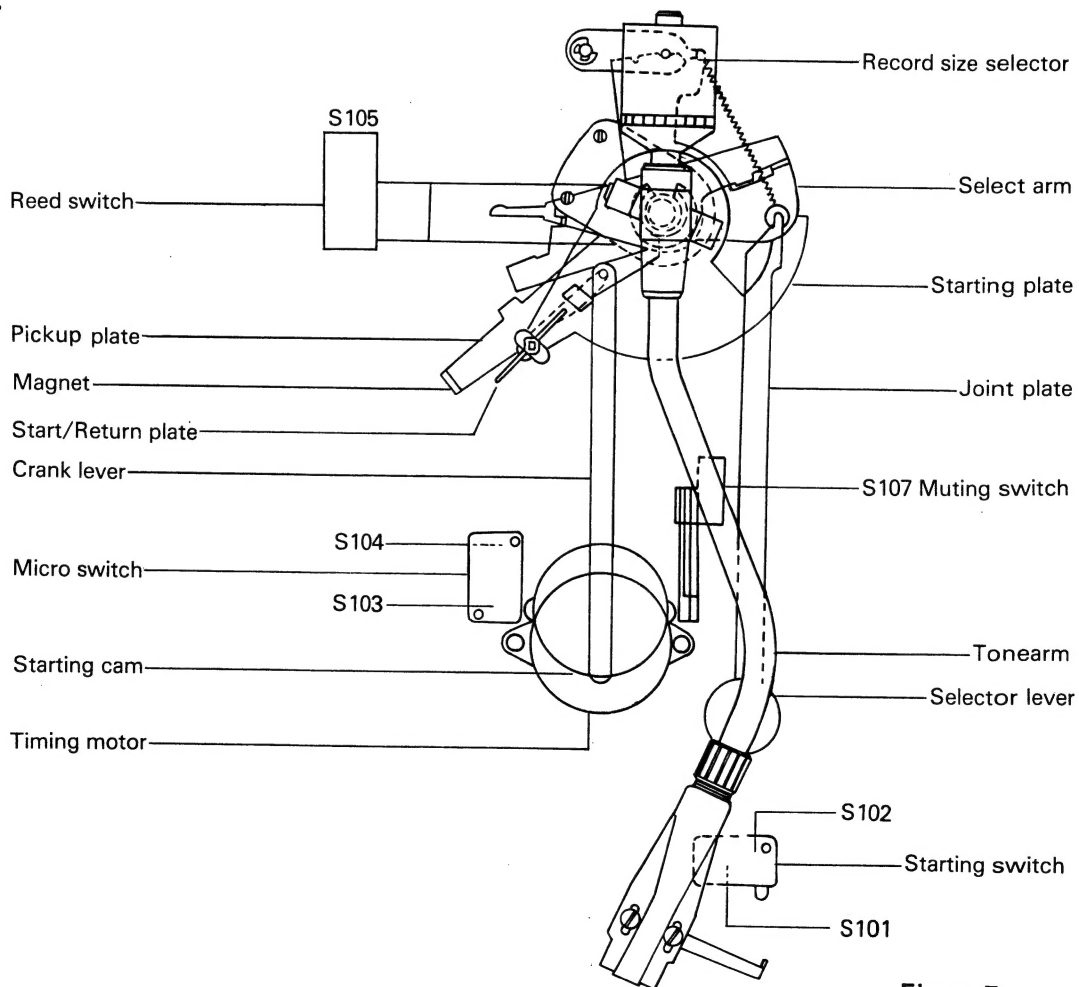

Figure 5
- 4) When Pickup Plate comes to the position of Select Arm, the Select Arm stops the Pickup Plate and the Start/Return Plate will turn over and remove pressure from the Pickup Plate. Now the Tonearm has reached the lead-in groove. The lead-in position can be changed by the Record Size Selector. Figure 5 shows the position for 10" records.